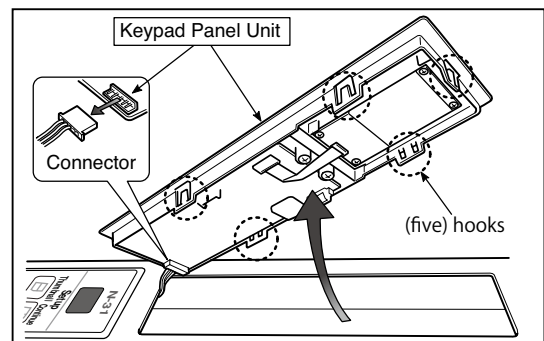

Fig.14
7) Remove the Back Panel Unit. (See Fig. 14)
7) Remove the Keypad Panel. (See Fig. 14)
1. Push the (five) hooks of the resin shown in Figure 14 and remove the Keypad Panel Unit on the front side.